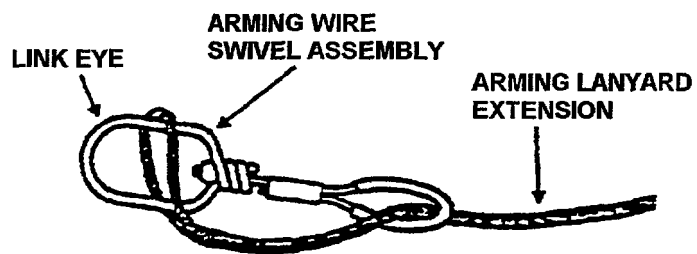

Figure 4-13F. Swivel Assembly Installation
- j. Attach the lanyard extension to the swivel assembly (Figure 4-13F), then pull connection tight.